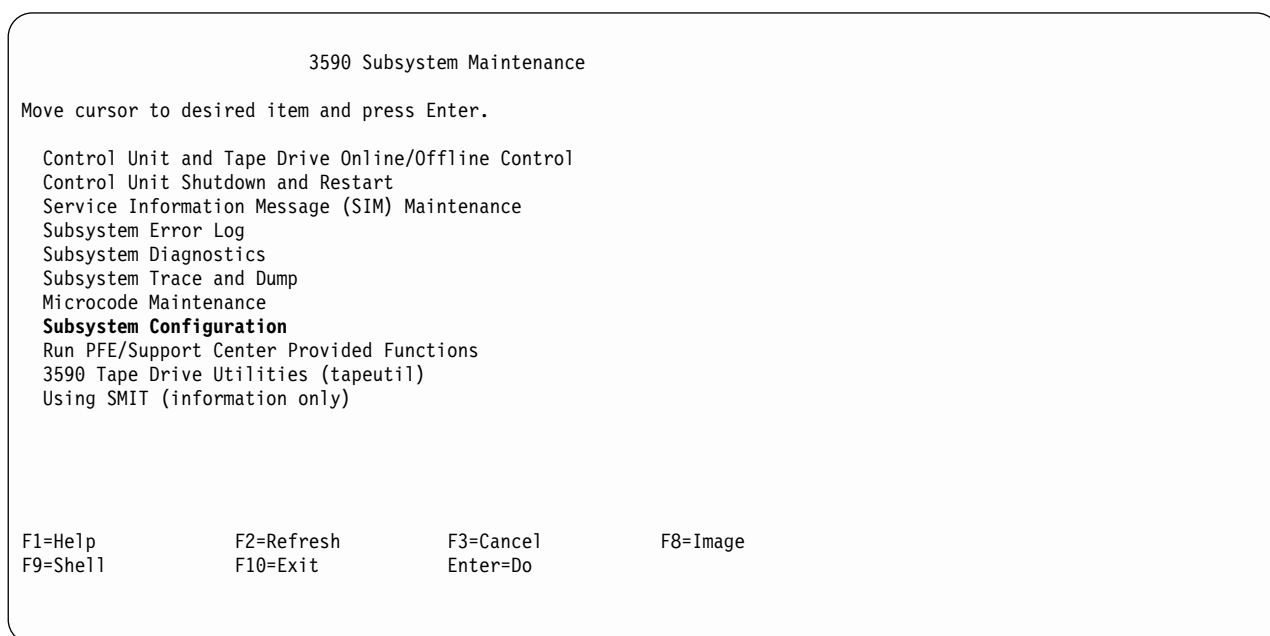

Figure 11-23. 3590 Subsystem Maintenance Screen
2. From the main service menu, select **Subsystem Configuration**. Press **ENTER**. Figure 11-23.